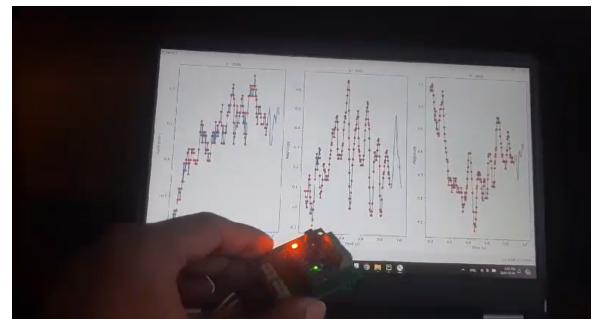

Figure 3.5
- Figure 3.5 - Sensor picking up and plotting random movements of hand.